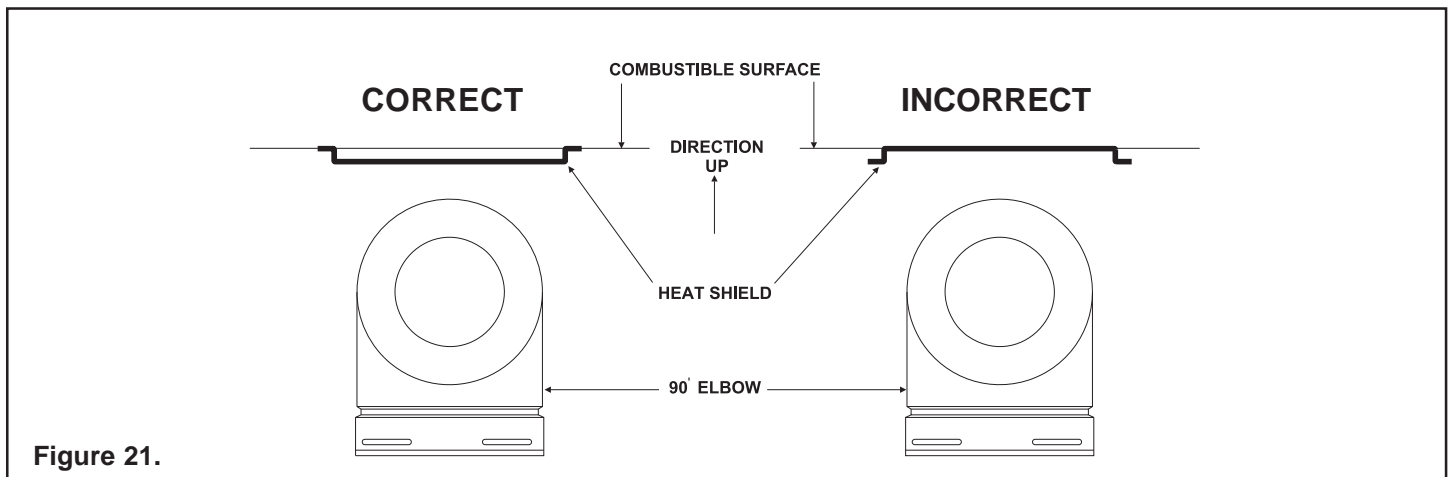

Figure 21.
2. Fasten the shield in place using the pilot holes provided in the part. The shield should be oriented such that the 13 1/8 inch dimension (longest dimension) is running in the same direction the elbow is pointing. The shield should be centered directly above the elbow, and positioned so that it creates a 1/2 inch airspace between the shield and the combustible surface. See Figure 21.